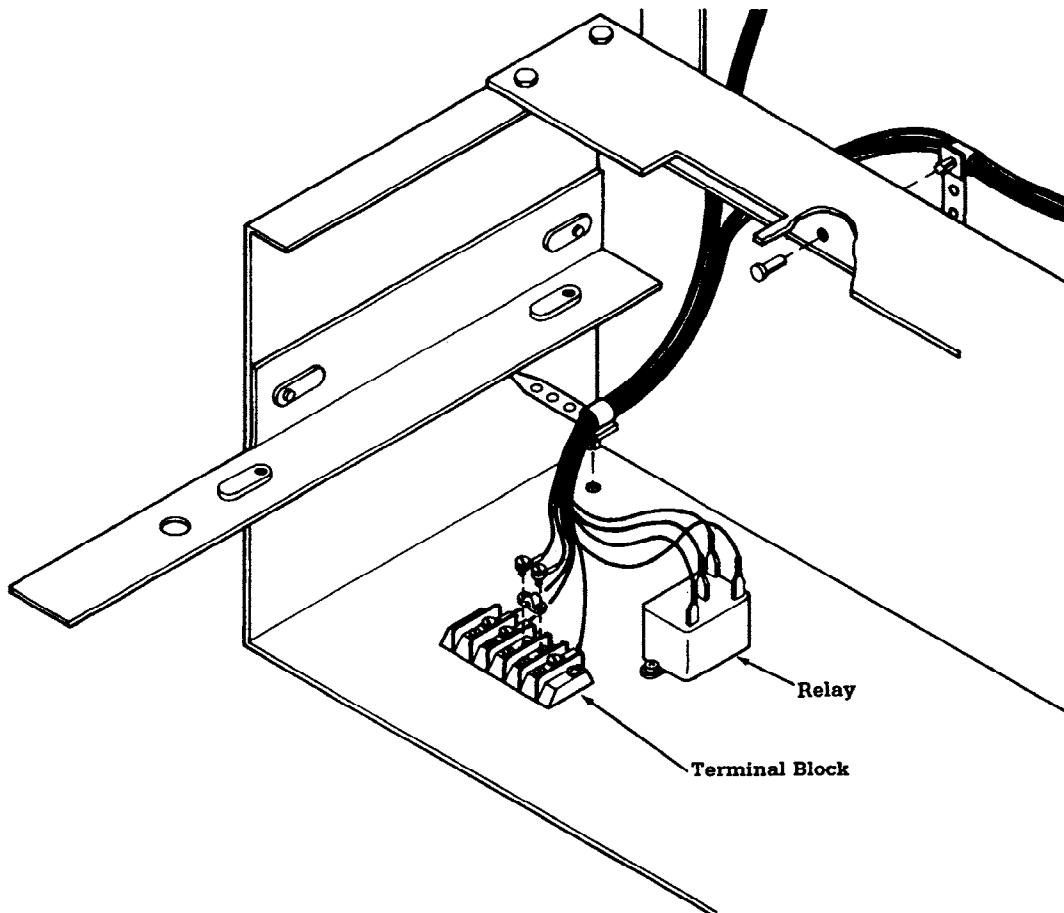

Figure 3-6
1. Refer to Figure 4-1 for wiring diagram and Figure 3-6 for a photo.